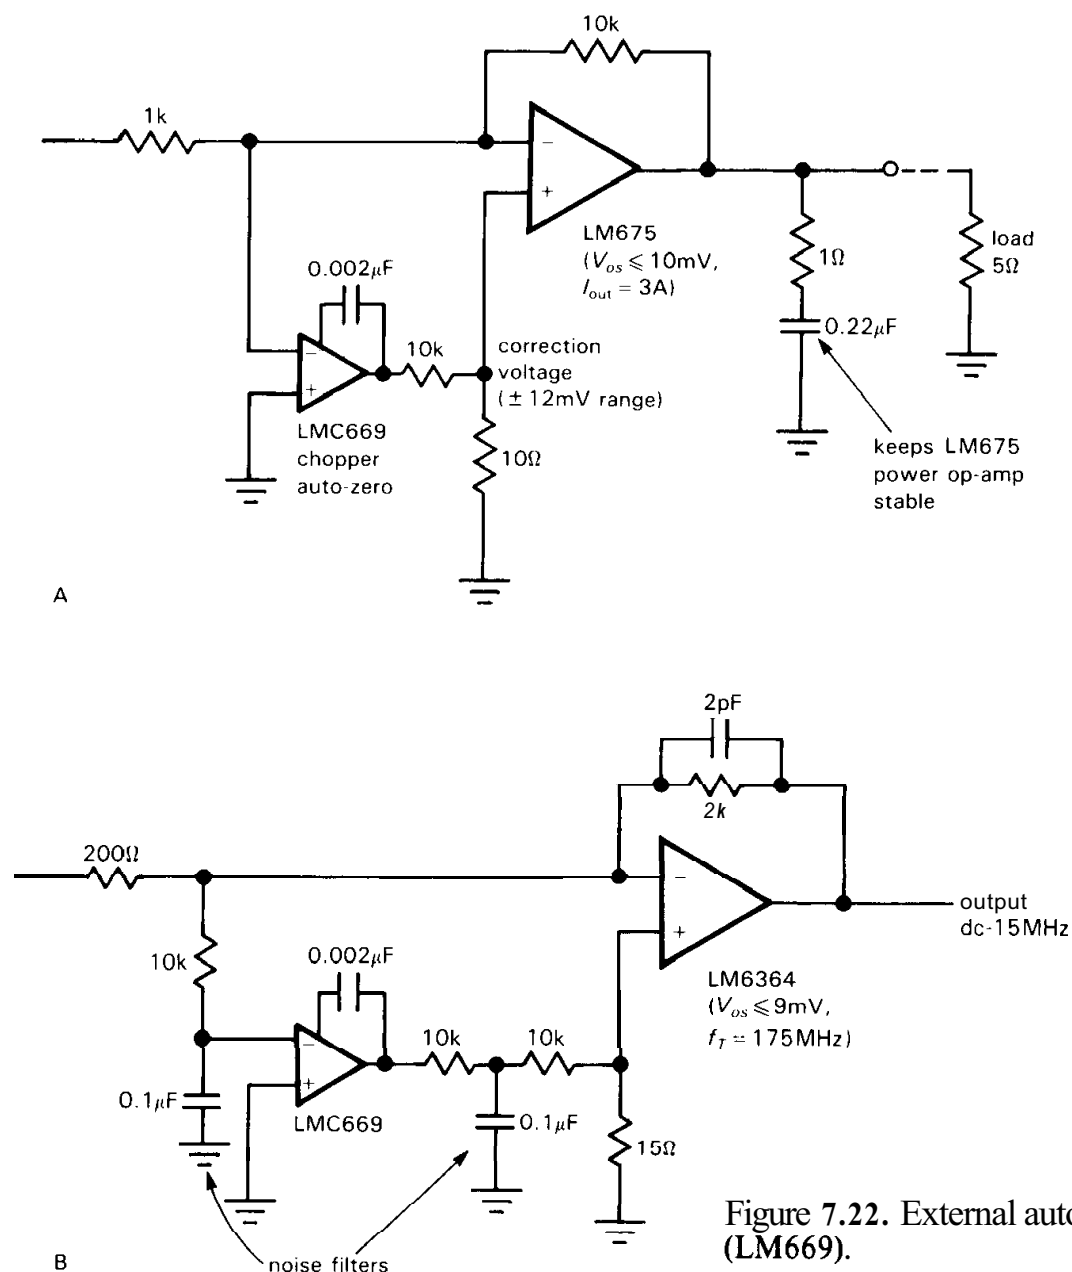

Figure 7.22. External auto-zeroing IC (LM669).
□ **External auto-zero.** National makes a nice "auto-zero" chip (the **LMC669**) that can be used as an outboard nulling amplifier to make any op-amp of your choosing into an auto-zeroing amplifier (Fig. 7.22). It works most naturally with the inverting configuration, as shown, generating an error voltage to the noninverting input to maintain zero input offset. It doesn't do as well as the dedicated auto-zero amplifiers we've been considering: The V_{os} specification is $5\mu\text{V}$ (typ), $25\mu\text{V}$ (max). However, it does let you use the auto-zero technique with any op-amp. You might, for instance, use it to zero an imprecise but high-power or high-speed op-amp. The circuits shown are good examples. The **LM675** is a nice high-power op-amp (3A output current, with sophisticated on-chip safe-operating-area and thermal protection), but with a maximum offset voltage of 10mV . The auto-zero reduces that by nearly a factor of 1000. Likewise, the **LM6364** is a fast op-amp ($f_T = 175\text{MHz}$, $\text{SR} = 350\text{V}/\mu\text{s}$) with maximum offset voltage of 9mV , here reduced by a factor of 400. Note the RC filter